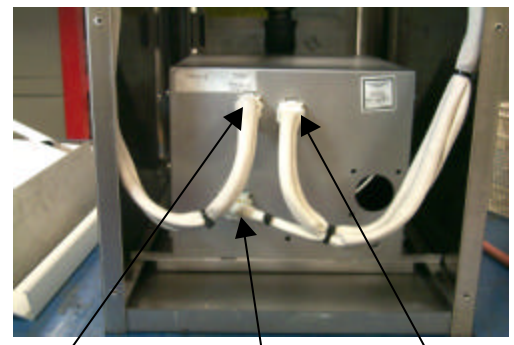

Fig: 10-17
7. Unplug two lower plugs. **Fig: 10-17**